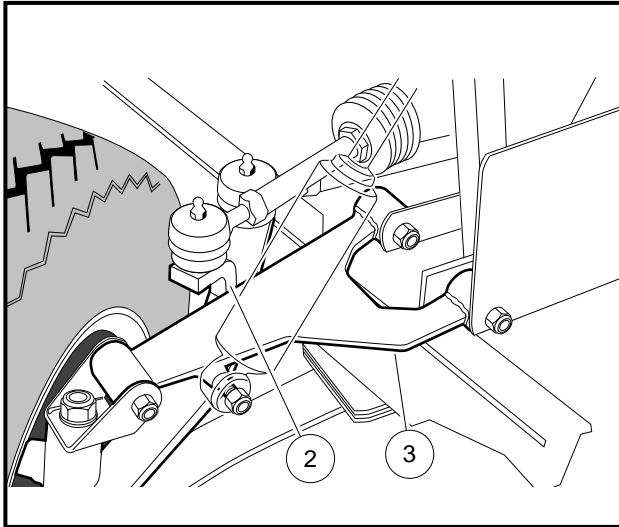

Figure 7-7 Adjust Steering Alignment
1. Turn the steering wheel all the way to the right. Note the distance between the passenger side spindle stop (2) and passenger side A-plate (3) (**Figure 7-7, Page 7-8**). The internal stop on the rack must reach its limit of travel against rack and pinion housing at exactly the same time the spindle stops against the passenger side A-plate (with vehicle wheels turned to the right). If simultaneous contact occurs, steering is in correct adjustment; Proceed to step 4. If simultaneous contact does not occur, proceed to step 2.